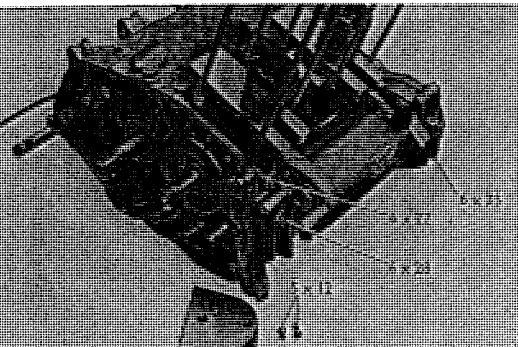

Fig. 3.83 Disassembling starting motor side cover
4. Remove two 5×12 pan screws securing the starting motor side cover. (Refer to Fig. 3.83)